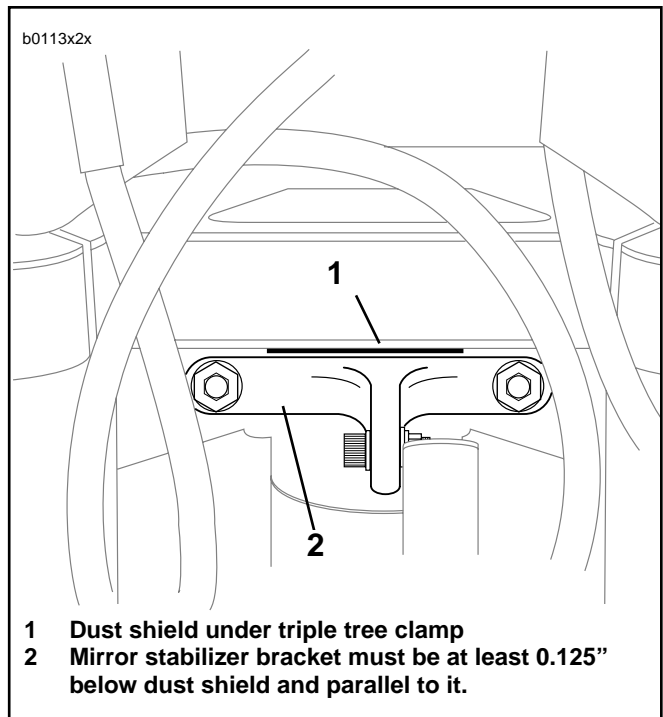

Figure 3. Checking Installation
11. See Figure 3. Check the distance between the top of the mirror stabilizer bracket and dust shield below upper triple tree clamp. The bracket and dust shield must be parallel and have a gap of at least 0.125".